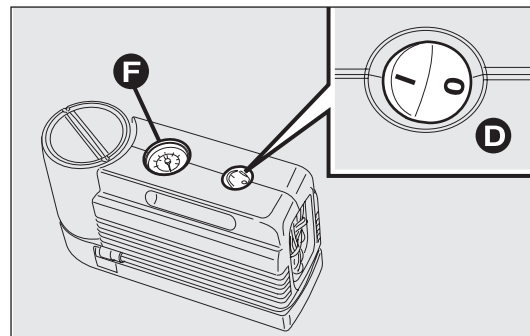
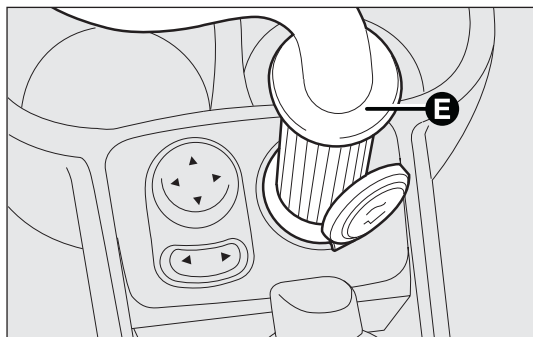

fig. 135
fig. 136
- make sure that the compressor switch D-fig. 135 is in position 0 (off), start the engine, fit the plug E-fig. 136 in the 12 V-socket in the central tunnel and operate the compressor turning the switch D-fig. 135 to position I (on). Inflate the tyre at the pressure value specified in paragraph "Inflation pressure" in chapter "Technical specifications".
For a more accurate reading, check pressure gauge F-fig. 135 with the compressor off;